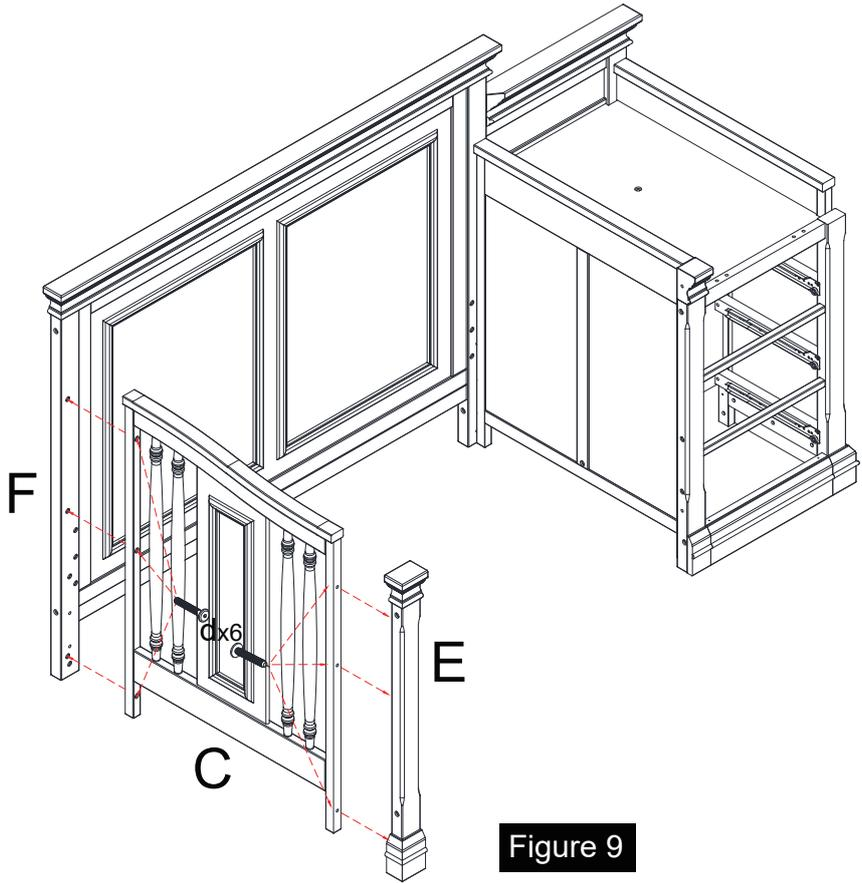

Figure 9
STEP 9 Assembly of Side Panel - L & Front Post - L as shown on Figure 9.